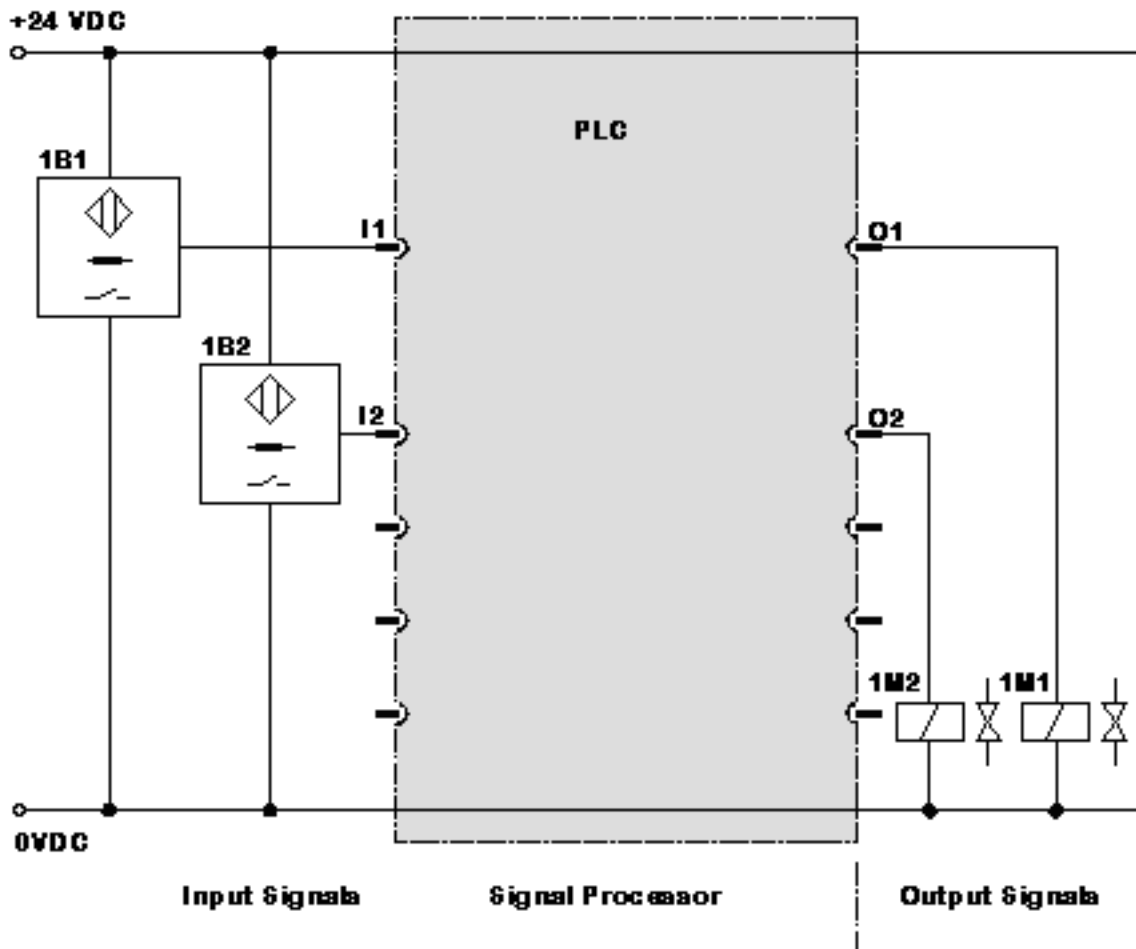

Figure 7.10: Signal control section of a programmable logic controller (PLC)
Figure 7.10 shows the signal control section of an electro pneumatic controller that uses a programmable logic controller for signal processing.
- The components for signal input (in Figure 7.10: the inductive proximity sensors 1B1 and 1B2) are connected with the inputs of the PLC (I1, I2).
- The components for signal output (in Figure 7.10: directional control valve solenoid coils 1M1 and 1M2) are connected with the outputs of the PLC (O1, O2). Actuation takes place via an electronic circuit that is part of the microprocessor system.